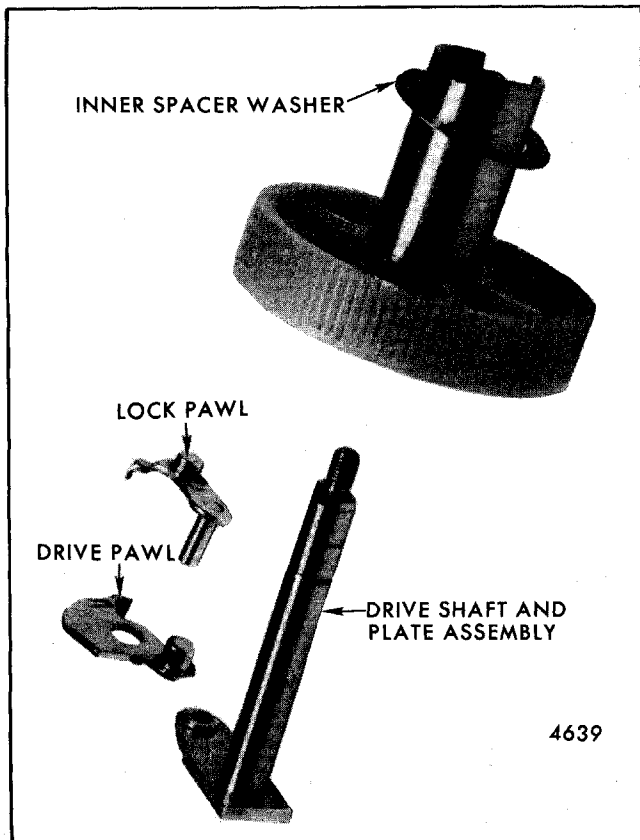

Fig. 2-69-Gear Removed
5. Slide drive plate and shaft out of gear and remove the drive pawl, lock pawl and coil spring as required (Fig. 2-69).